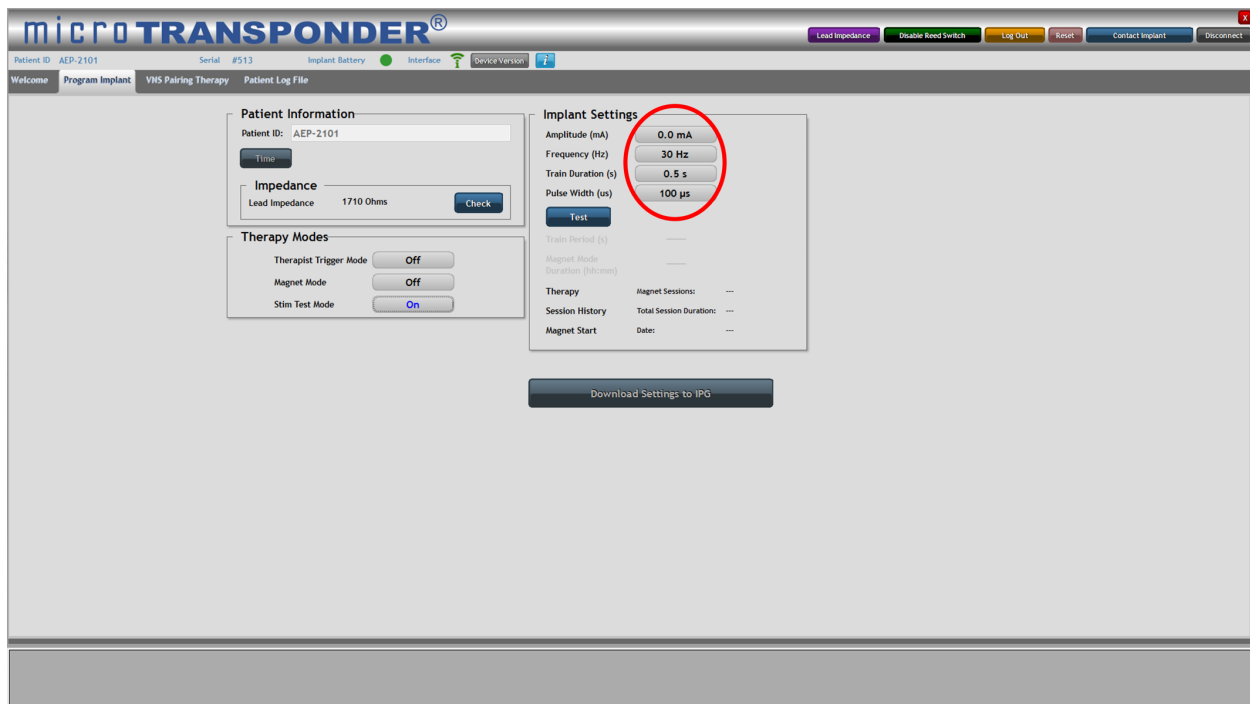

Figure 4.17: Implant Settings
2. Optionally, you may change the stimulation parameters displayed in the **Implant Settings** menu (see Figure 4.17). For each of the settings (**Amplitude**, **Frequency**, **Train Duration**, **Pulse Width**), click the button next to the setting, and a menu will drop down containing all available parameters for that setting. Then select the appropriate value for